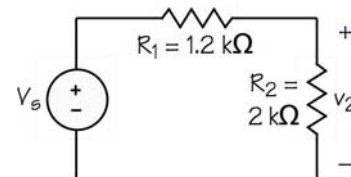
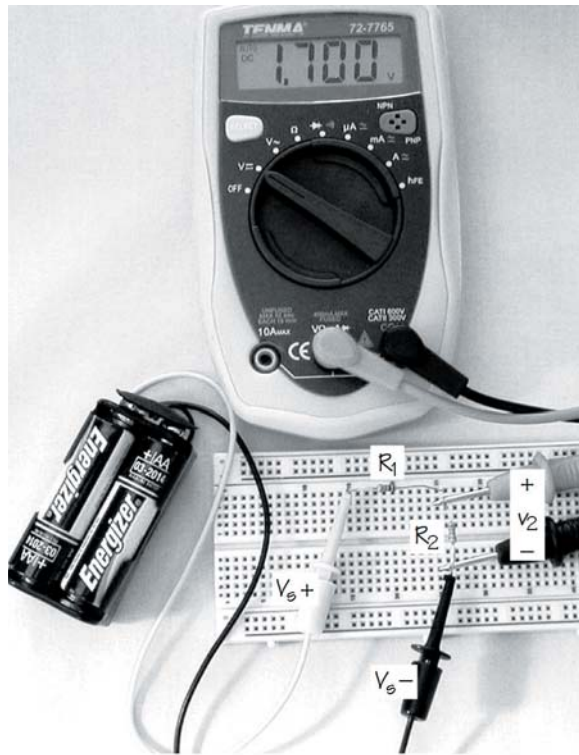

Fig. 6—Voltage divider
Fig. 7—Voltage divider
1. Construct the voltage divider shown in the schematic of Fig. 6 and the photo of Fig. 7 (next page).